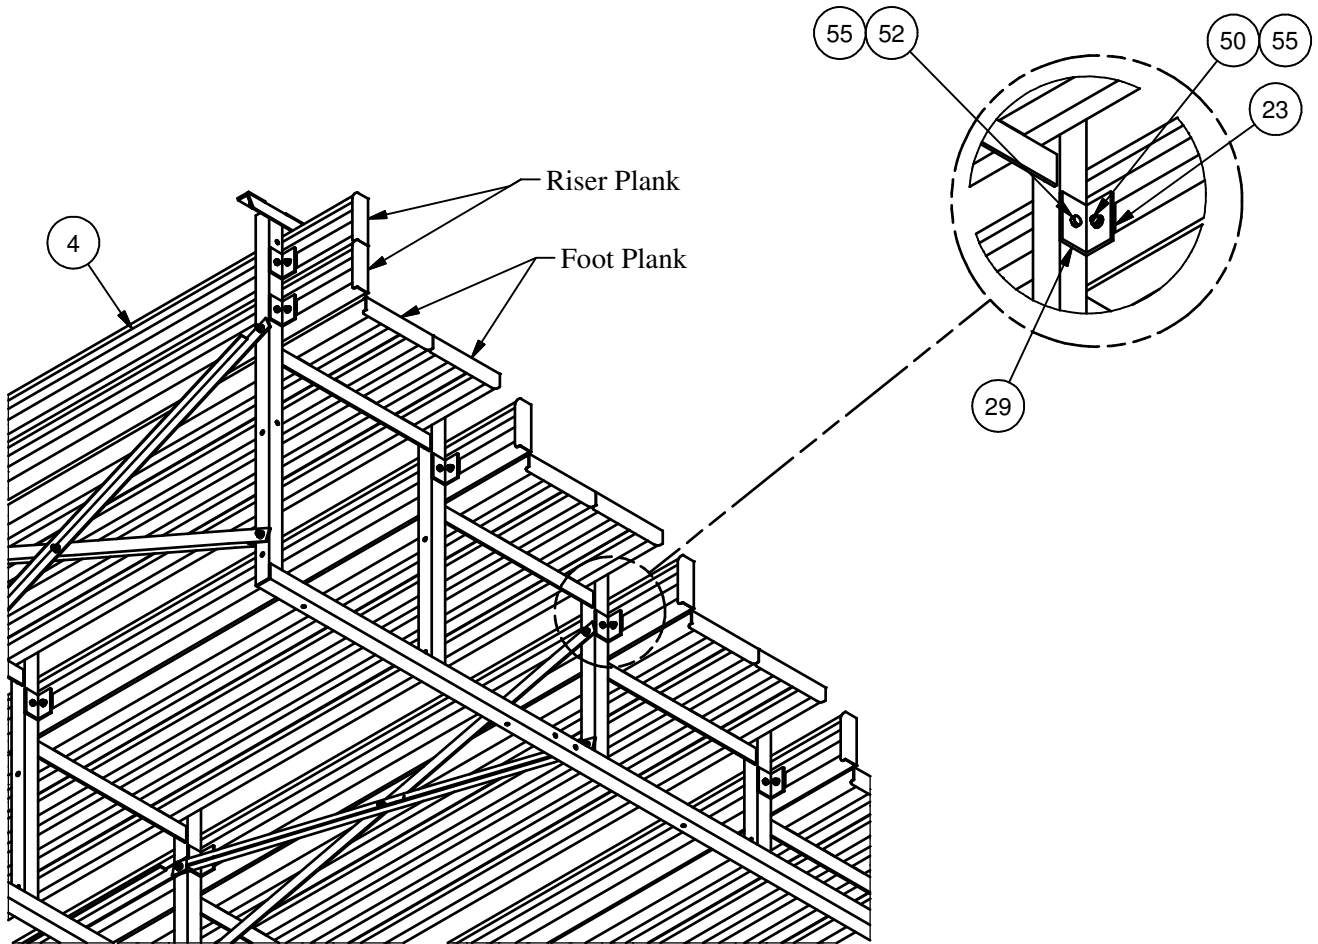

Figure 8
7. Install the riser planks on the 2nd through 5th row seat vertical angles. First install the riser mounting angle onto the upright using the 5/16" x 1" hex bolt and 5/16" whizlock nut. Note: Two (2) angles are used on the top row verticals. Once all the mounting angles have been installed at all frame positions, loosely install the mounting clip with the 5/16" x 1" carriage bolt and 5/16" whizlock nut. See figure 8. Angle clips are not required on the first row. Connect the first row riser to the first row upright with mounting clips, 5/16" carriage bolts and 5/16" nuts only.